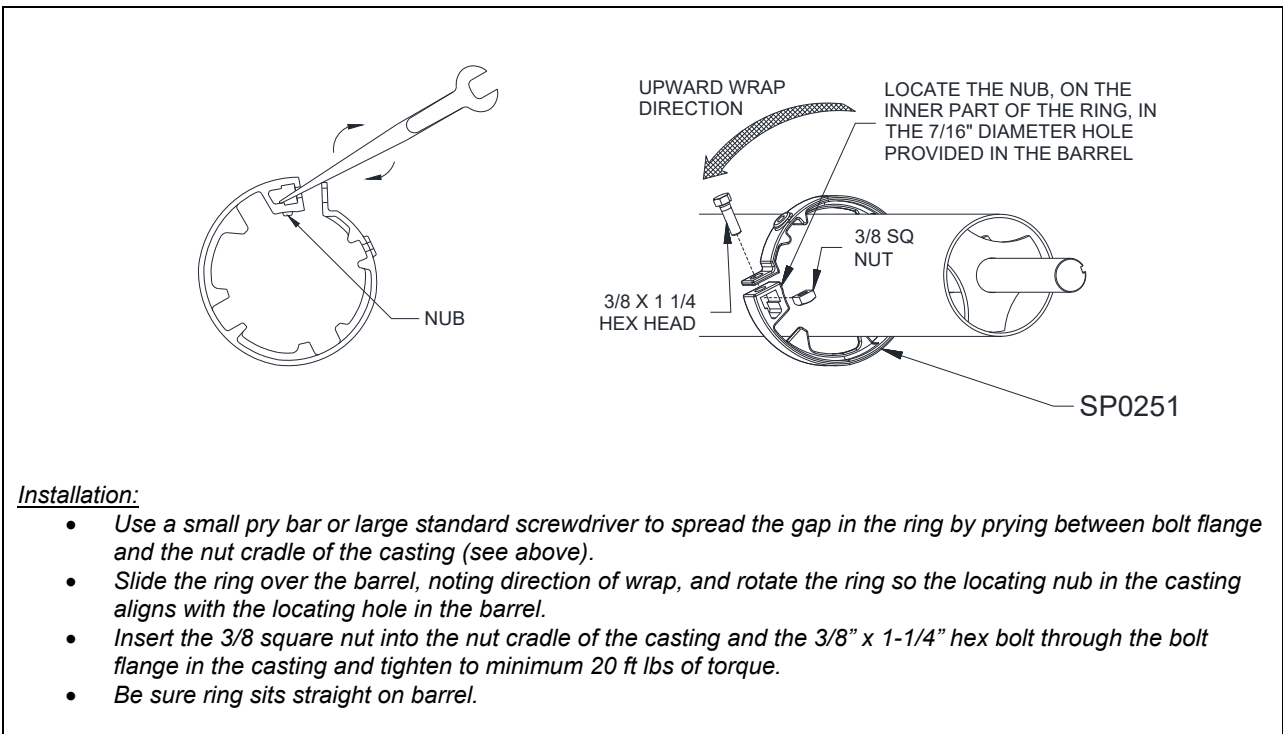

Figure 6.3 – Ring Installation
7. Locate the rings in the hardware bag/box provided. Check that you were supplied the correct type and quantity. (Use **Figure 6.3** as a visual aid.)
8. Use the information in **Figure 6.3** to install the rings.